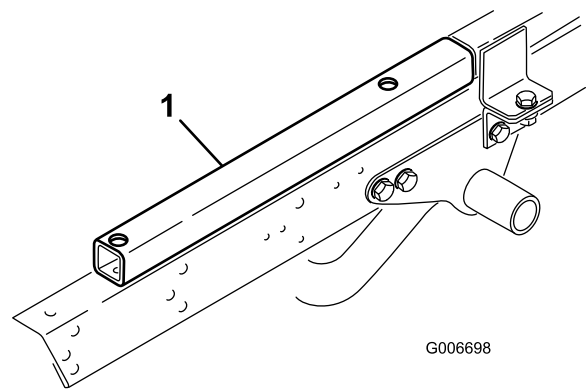

Figure 8
1. Remove any accessories mounted to top of frame in forward position such as a 1/3 bed, power platform, H.D. Hitch Frame extension tubes (Figure 8), etc.